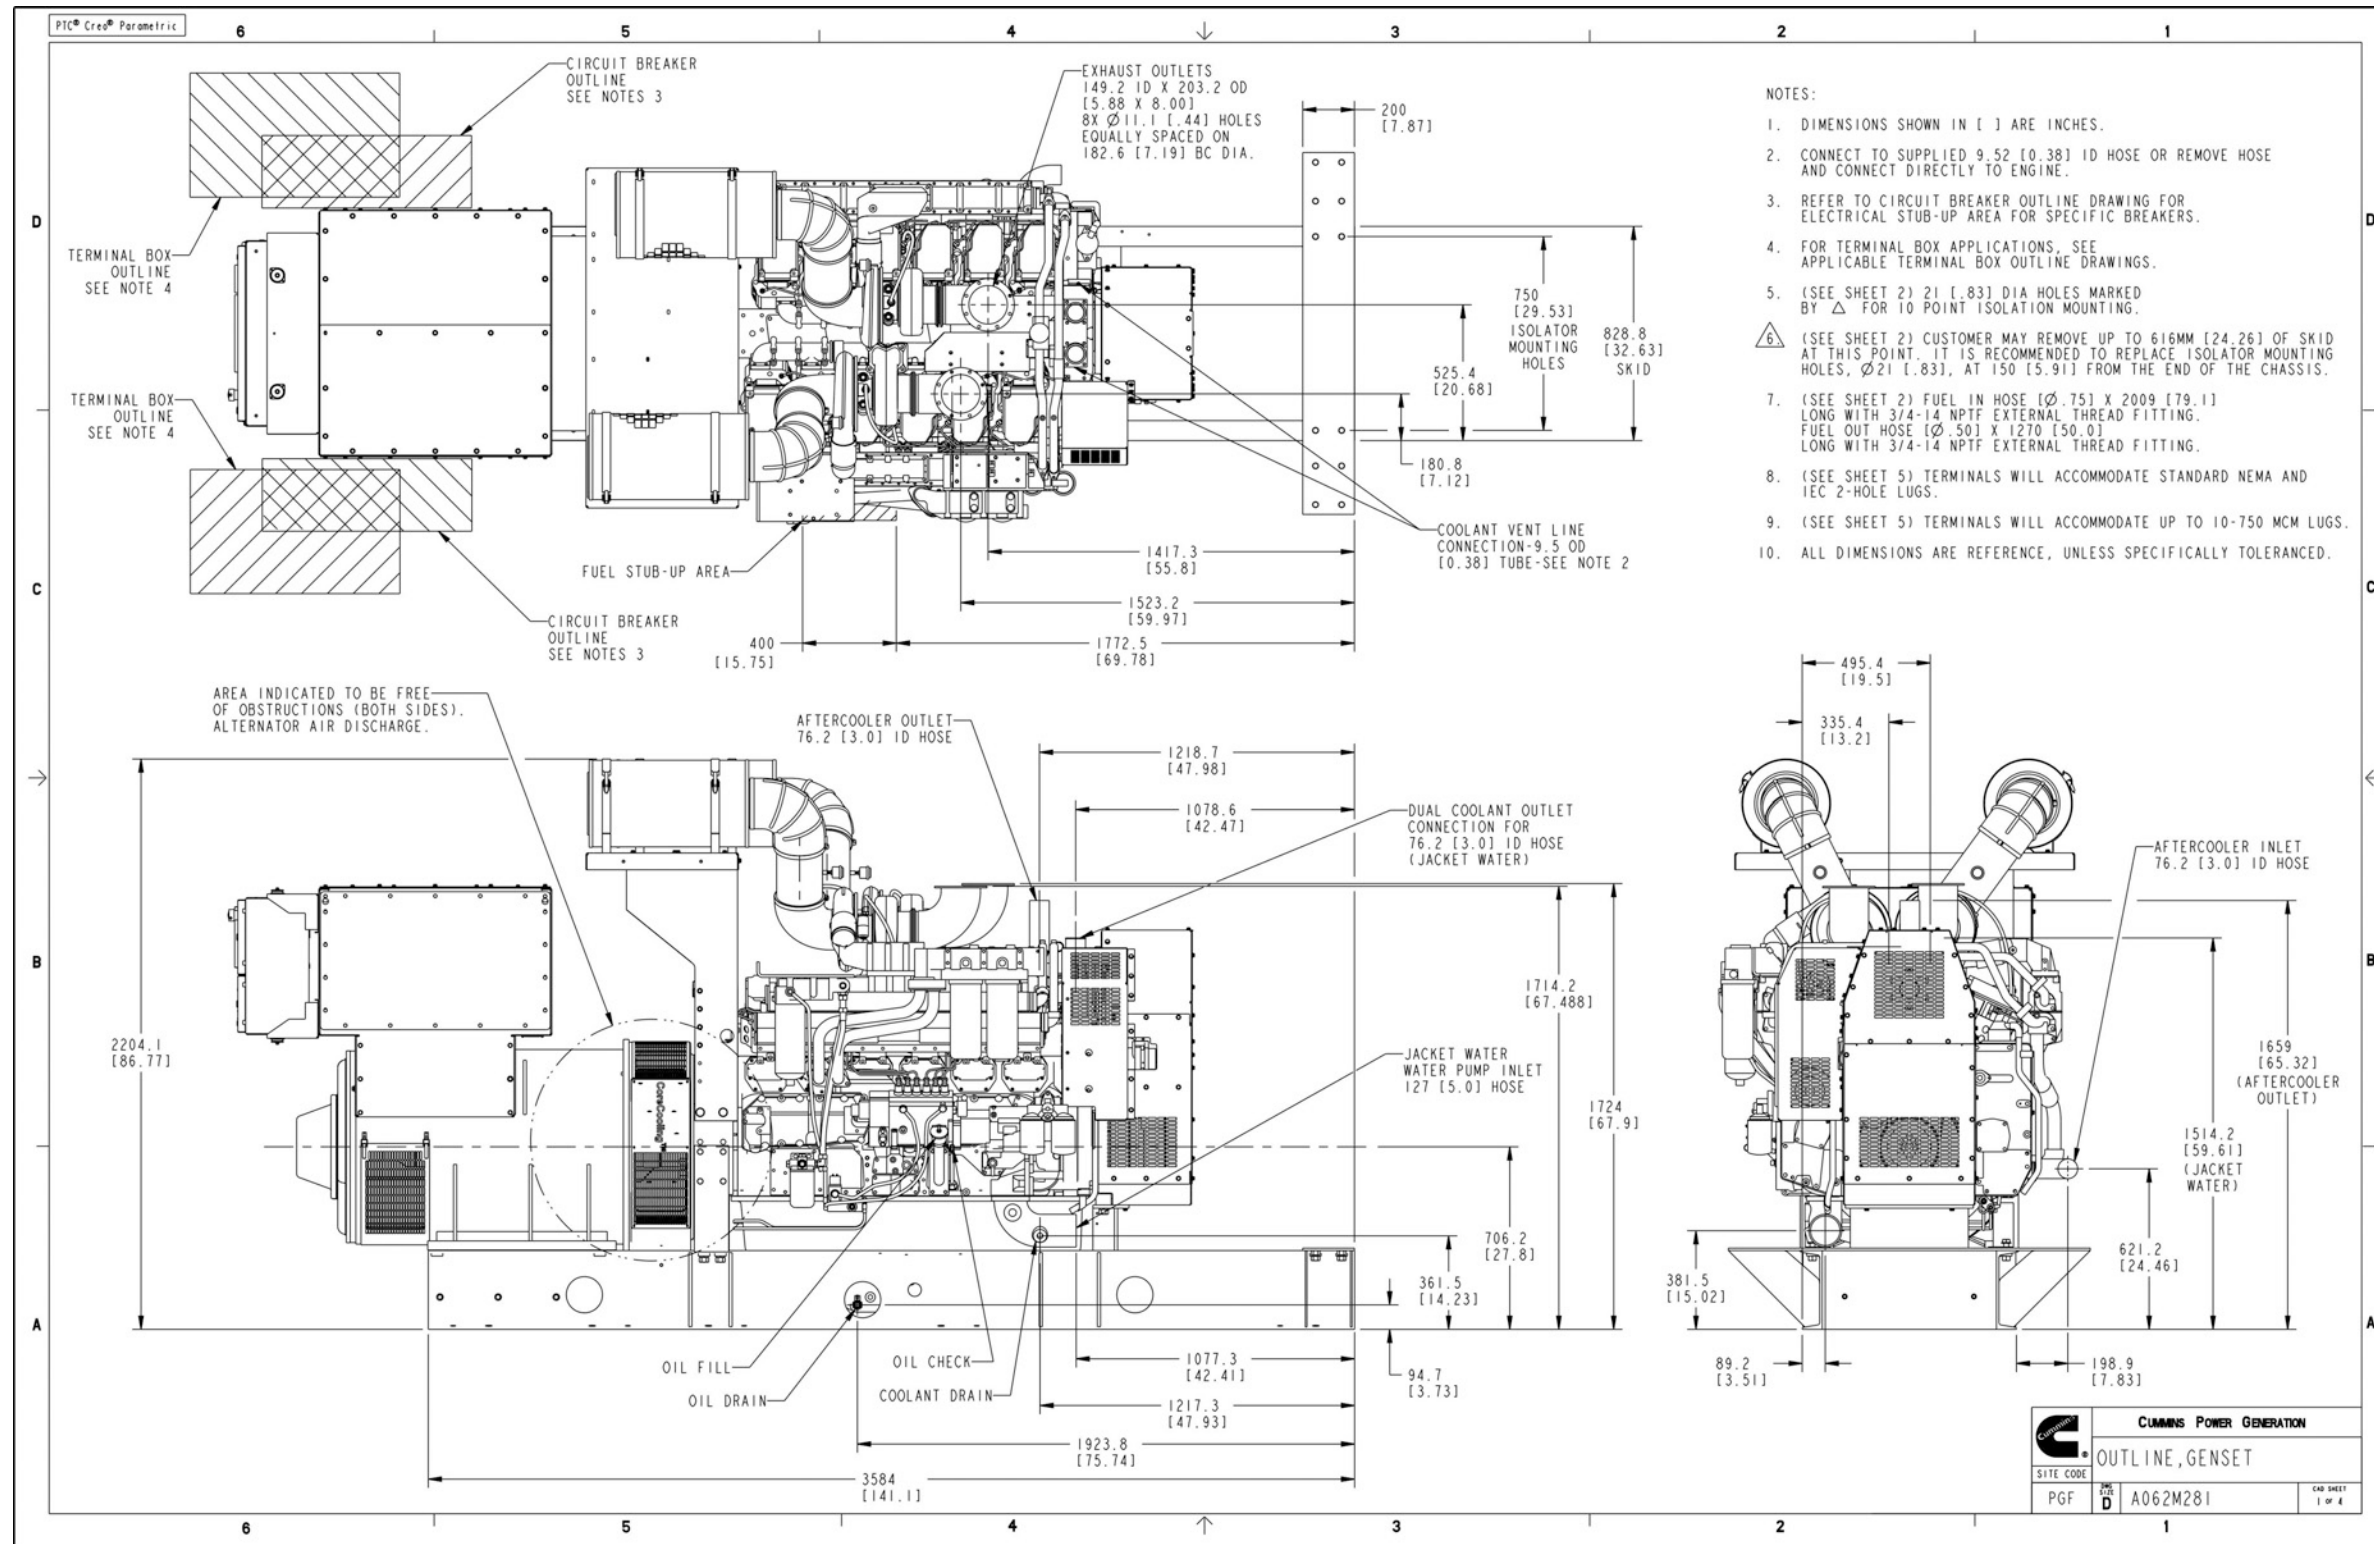

FIGURE 78. GENERATOR SET OUTLINE DRAWING (REMOTE RADIATOR) (SHEET 1)
- Figure 78. Generator Set Outline Drawing (Remote Radiator) (Sheet 1) 144